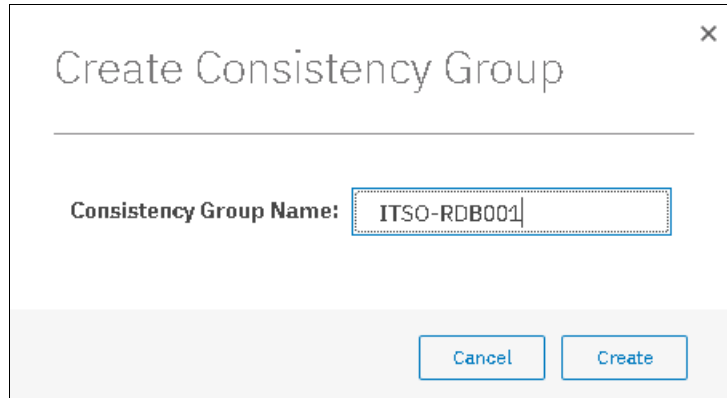

Figure 10-34 Create Consistency Group window
2. Click **Create Consistency Group** and enter the FlashCopy Consistency Group name that you want to use. Then, click **Create** (see Figure 10-34).